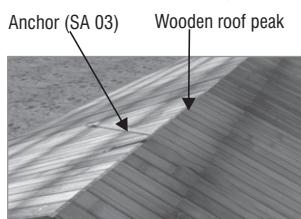

Fig.1- Wooden roof structure on to which anchor is to be installed
- Place the anchor plate to match the surface it will be mounted on, either a roof peak or flat surface. Ref fig. 1